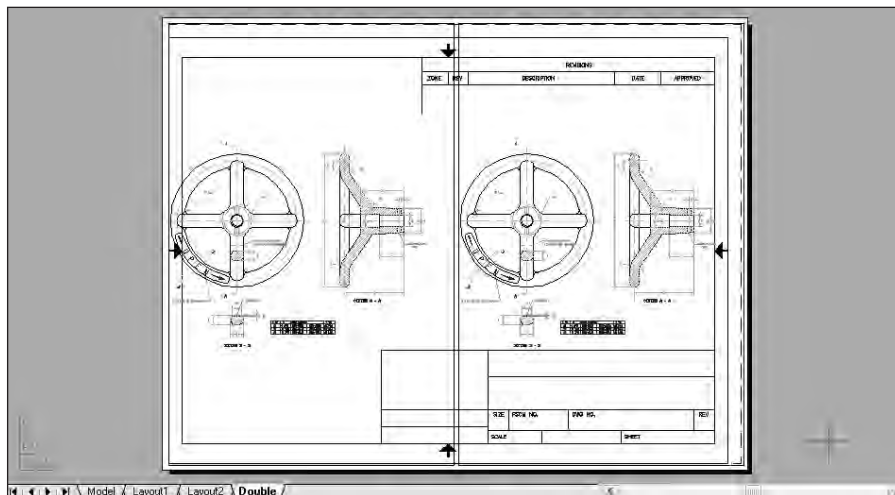

Figure 17-7: Using the Layout Wizard to create a paper space layout with floating viewports
12. Save your drawing. It should look like Figure 17-7.